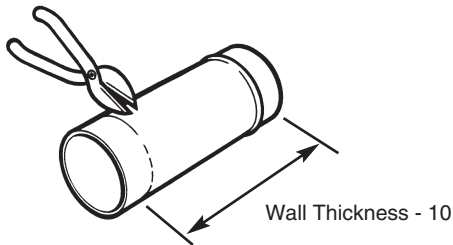

Fig. 71
5. Mark off the dimension, wall thickness - 10mm (3/8 in), measuring from the beaded end of the duct and cut off the remaining length of the duct. Ensure that the cut is square and reasonably straight (Fig. 71).